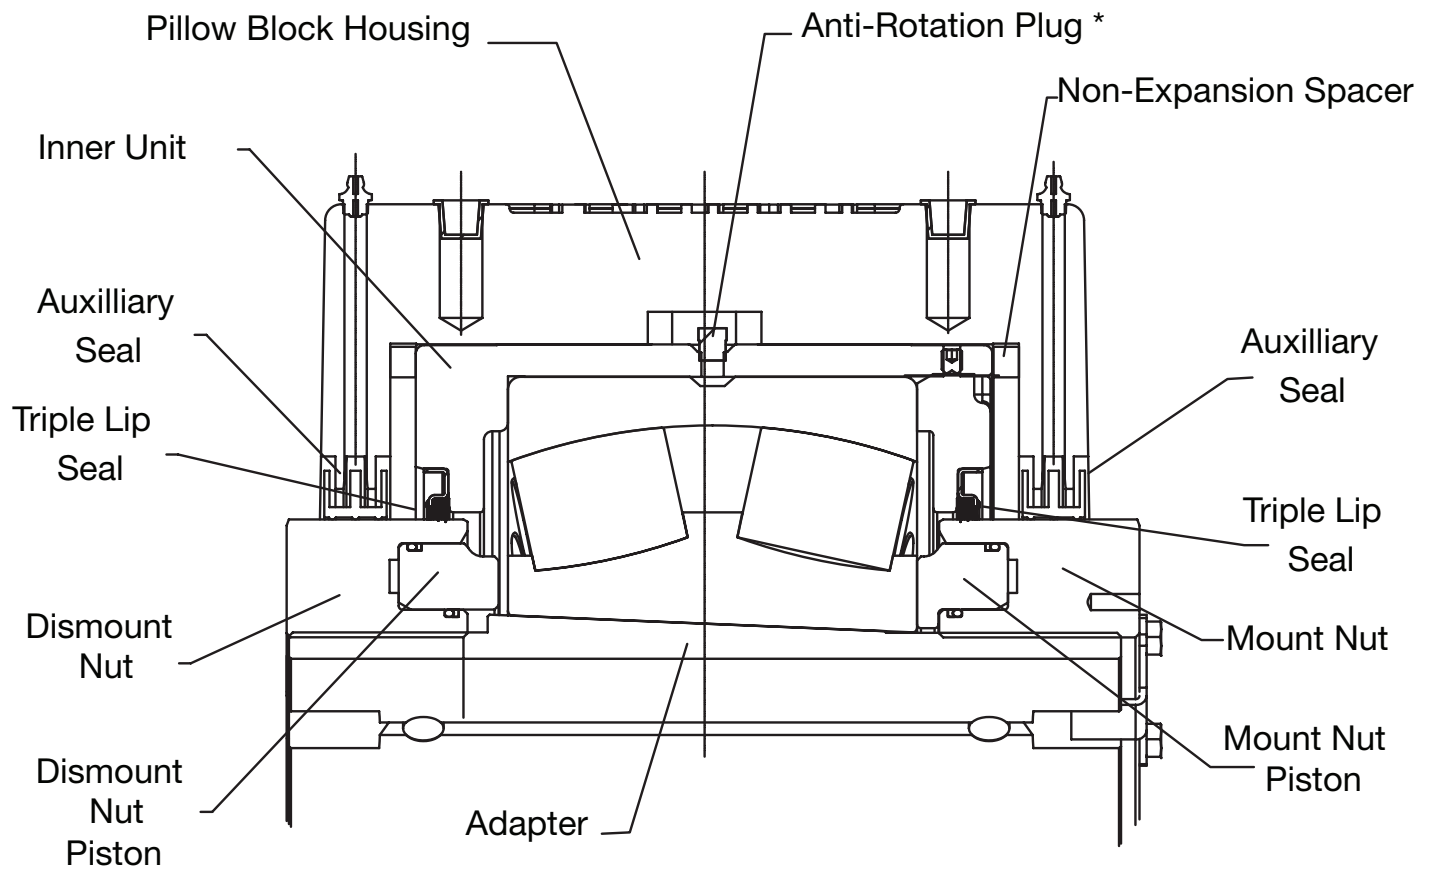

Figure 3 - Cross Section
4. Rotate Dismount Nut counter clockwise two full rotations. The Dismount Nut must remain loose during the mounting procedure but should never be removed. Without loosening the dismount nut, the dismount unit piston will make contact with the bearing unit as it travels up the adapter. (See Figure 3) This will not allow the bearing to move up the adapter and tighten properly.
anti-rotation plug is positioned so that it is aligned with the machined groove in the cap housing. See Figure 3.
4. Incorporating a spanner or drift and hammer, rotate the Mount Nut counter clockwise two full rotations. The Mount Nut must remain loose during the dismantling procedure, but should never be removed. Without loosening the mount nut, the mount nut piston will make contact with the bearing unit as it travels down the adapter. (See Figure 3) This will not allow the bearing to move down the adapter and loosen from the shaft properly.